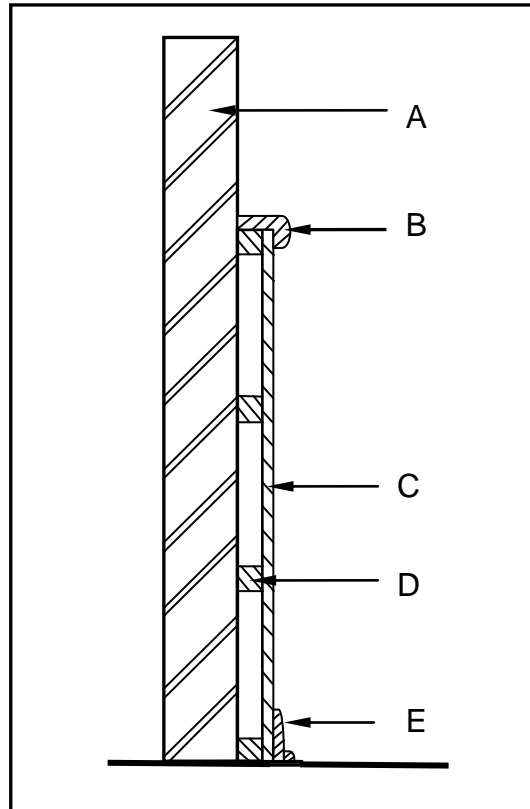

FIGURE 3.4
3.4 FIGURE 3.4 below is a sketch of the vertical section through a strip of board wall panelling. Identify members **A** to **E**. Write the name of the part next to the